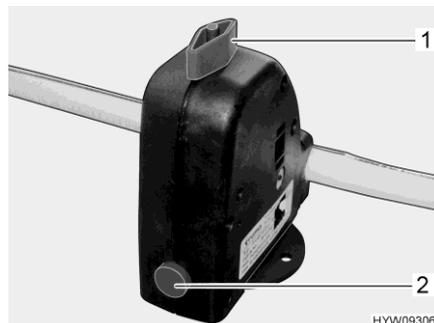

Fig. 115 Safety/drainage valve (boiler)
The boiler is equipped with a safety/drainage valve (Fig. 115). The safety/drainage valve prevents water in the boiler from freezing, when there is frost and the heater is not switched on.
- Close the safety/drainage valve. Turn the knob (Fig. 115,1) perpendicular to the safety/drainage valve and push the push button (Fig. 115,2) in.
- Open the safety/drainage valve. To do this turn the knob (Fig. 115,1) parallel to the safety/drainage valve. The push button (Fig. 115,2) jumps out. The boiler is drained to the outside by the safety/drainage valve.